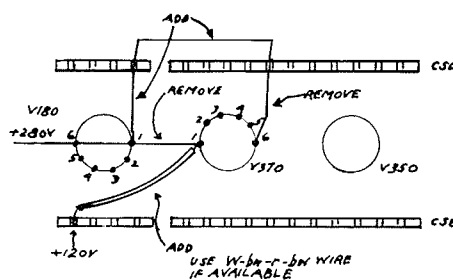

Figure 7.
7. Change wiring in the sweep as shown in Figure 7.